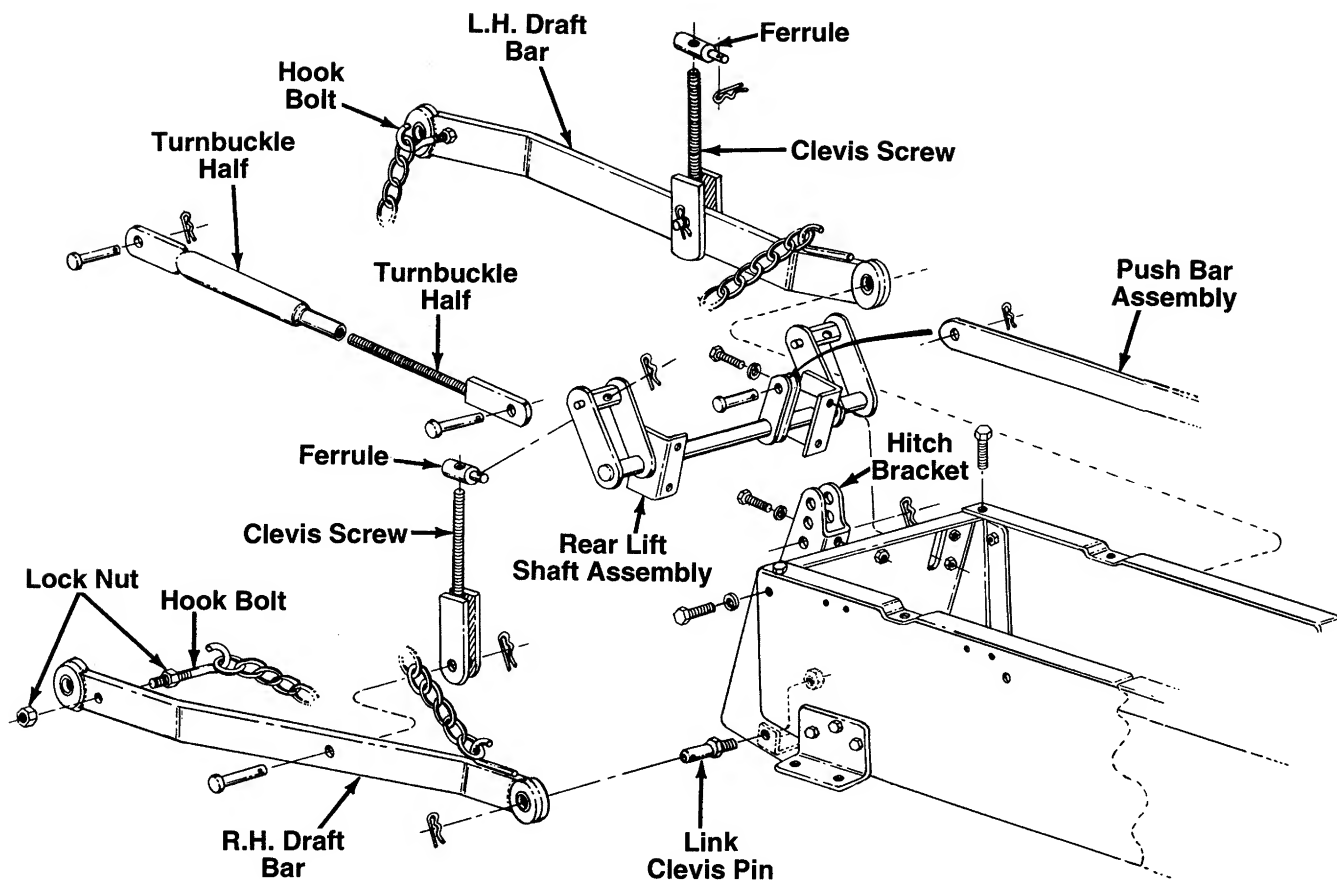

FIGURE 10.
**NOTE:** Refer to figure 10 to determine right and left hand draft bars.